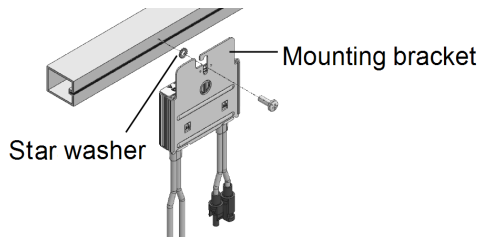

Figure 3: Power Optimizer installation and grounding using a star washer
1. Determine the Power Optimizer mounting location and use the Power Optimizer mounting brackets to attach the Power Optimizer to the support structure (See *Figure 3*). It is recommended to mount the Power Optimizer in a location protected from direct sunlight. For frame-mounted Power Optimizers follow the instructions supplied with the optimizers, or refer to